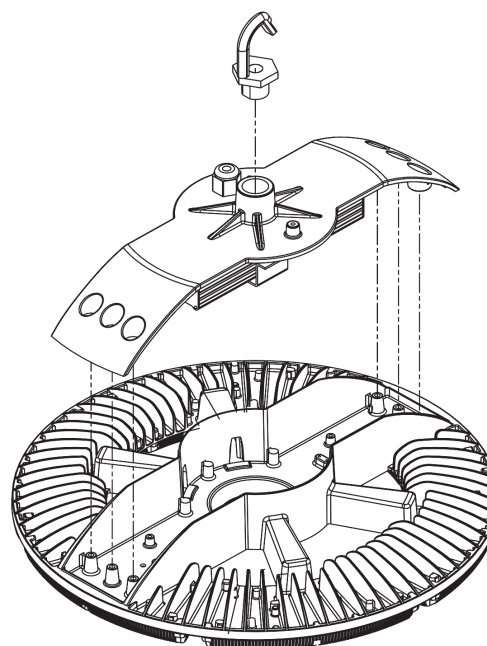

Figure 2
3. Attach the hook to the top mounting plate (Figure 2).